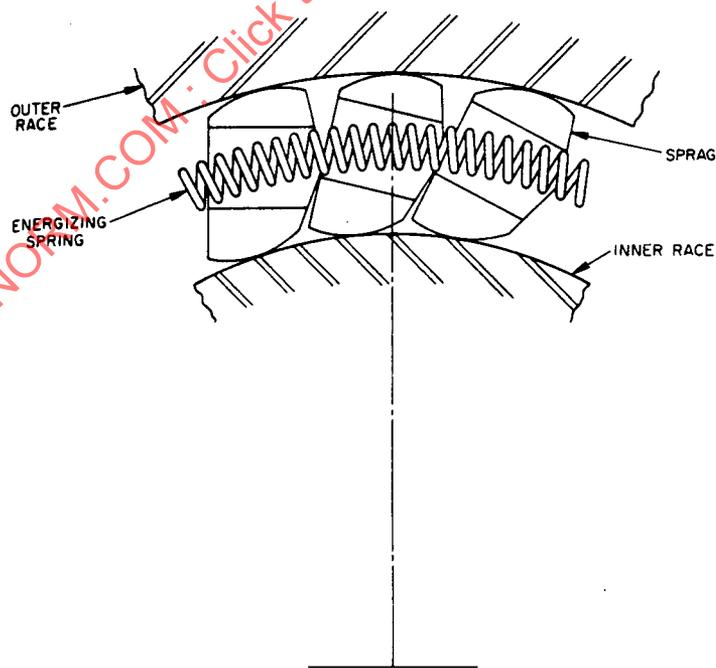

FIGURE 8 - Typical Full Complement Sprag One-Way Clutch Diagram
- 4.2.2 FULL COMPLEMENT SPRAG CLUTCH: A clutch in which the sprag configuration provides circumferential spacing. (See Figure 8.)